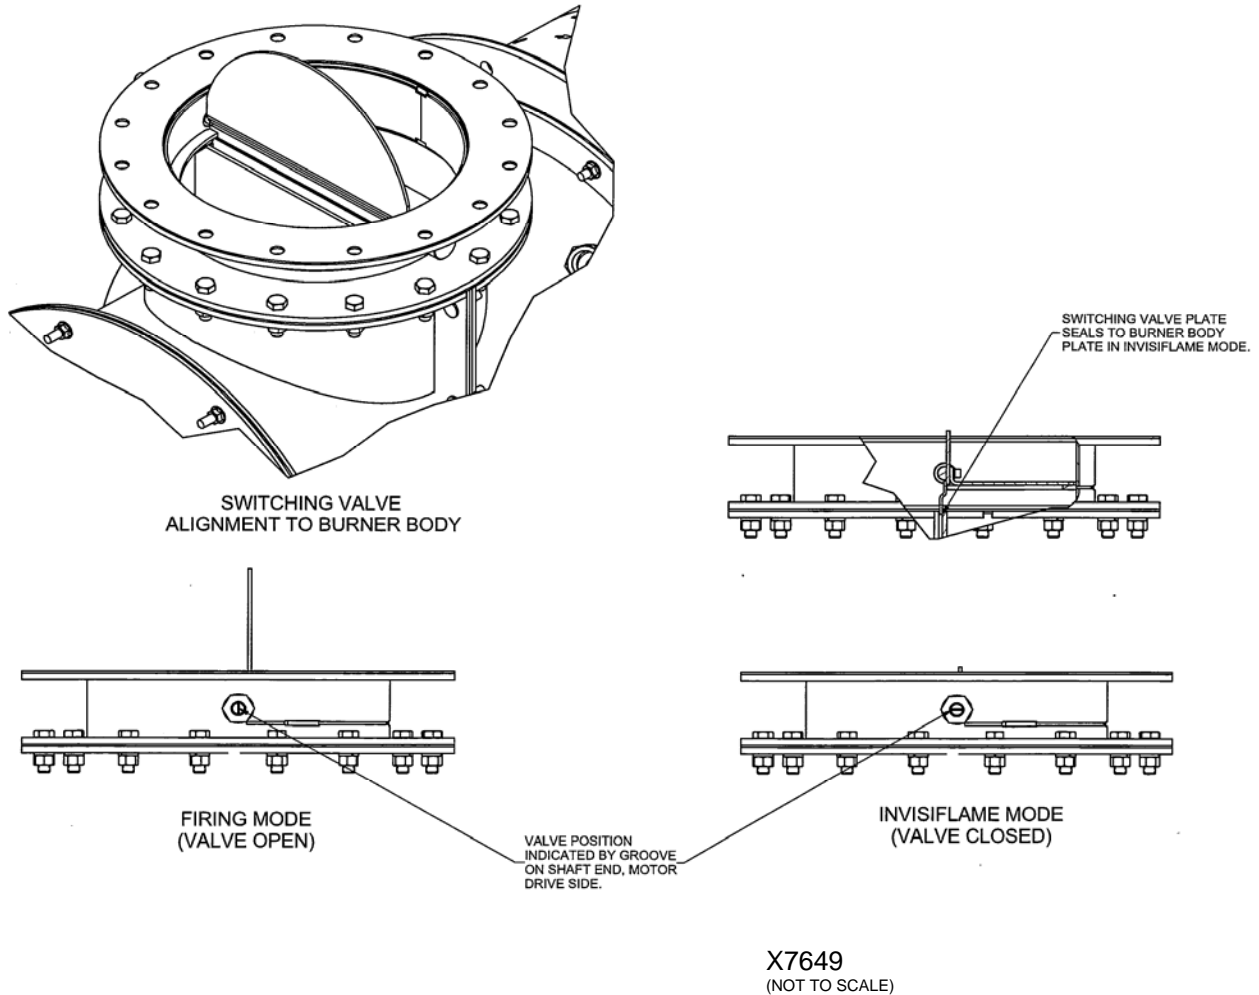

Figure 2. Switching Valve Alignment/Operating Mode (1000 – 2000 Series Only)
1. If using the optional switching valve assembly, sandwich the supplied gasket between the switching valve and the burner air inlet; use 5/8" (16 mm) bolts to secure the switching valve to the main air inlet. Note the burner and switching valve assembly have an RPM flange which is one pipe size larger than the switching valve I.D. (see Hauck dimension sheet TriOx-3). Ensure that the plate running through the center of the switching valve matches up to the center divider plate in the burner body to provide a metal to metal seal for the valve (see Figure 2).
Switching valve operation/stroke and all linkages should be doubled-checked for proper operation and tightness during and after initial startup. Verify the valve travel is in the correct direction as depicted in Figure 2 via the shaft indicator groove which aligns with the valve disc. Verify that all linkages are fully tightened.